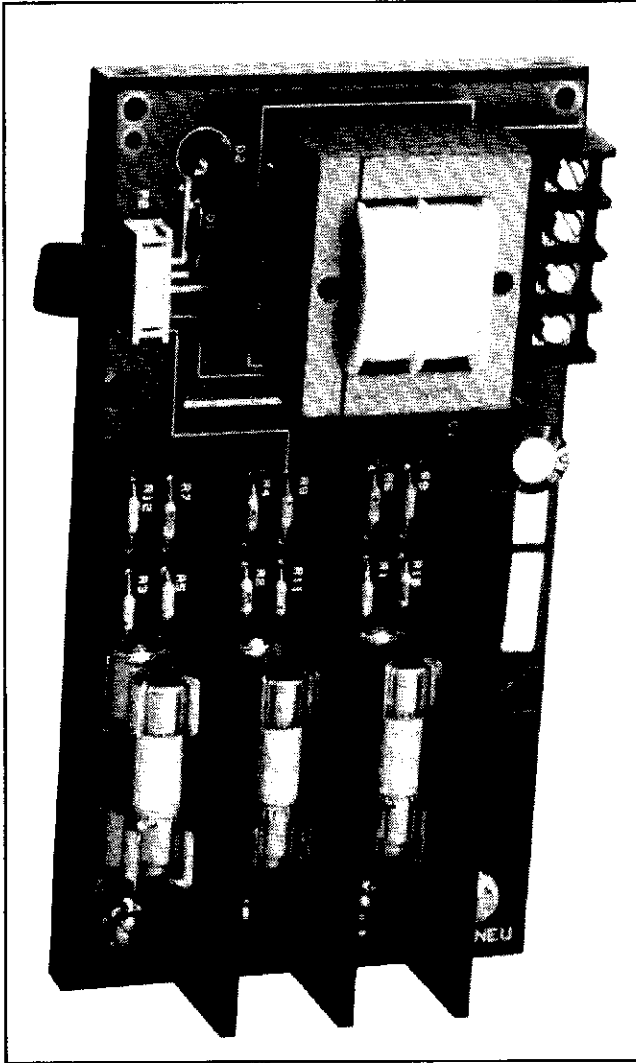

Fig. 4 SSPSM with cover removed
The Separate Source Power Supply Module is supplied with three fuses (3/4 ampere, 600 volt, Buss Type KTK-R-3/4), as shown in Figure 4. If a fuse must be replaced, first remove all power from the device. Remove the two screws that secure the SSPSM ribbon cable assembly to the 9-pin connector on the IQ Data Plus (II). Remove the two screws that secure the power module to the device.